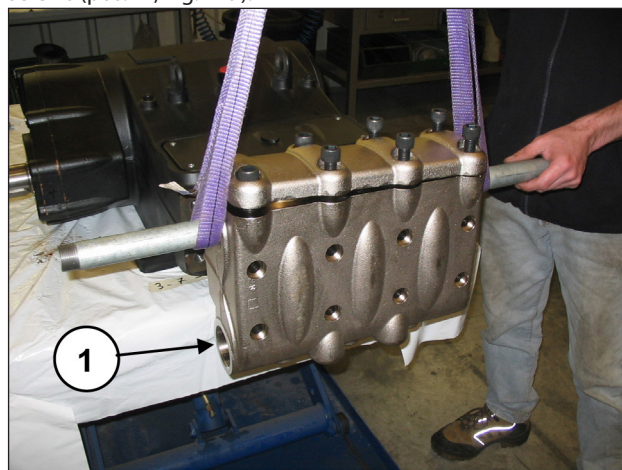
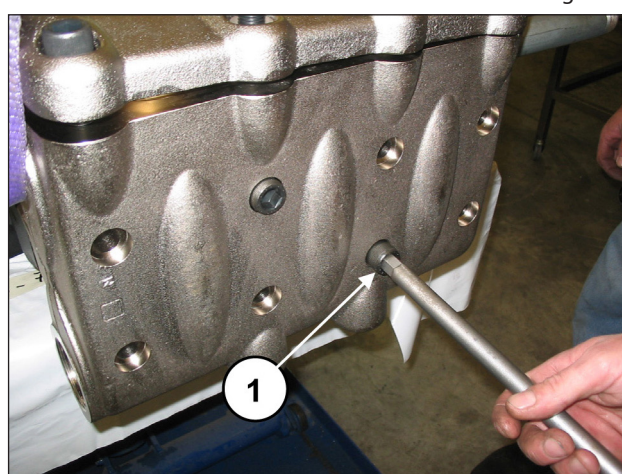

Fig. 128
Fig. 129
Assemble the head on the pump casing (pos. ①, Fig. 128) taking care not to hit the pistons and screw in the 8 M16x180 screws (pos. ①, Fig. 129).
Tighten the 8 M16x180 screws starting crosswise from the 4 inner screws (see Fig. 128), to then continue with the 4 outer screws, always tightening crosswise.